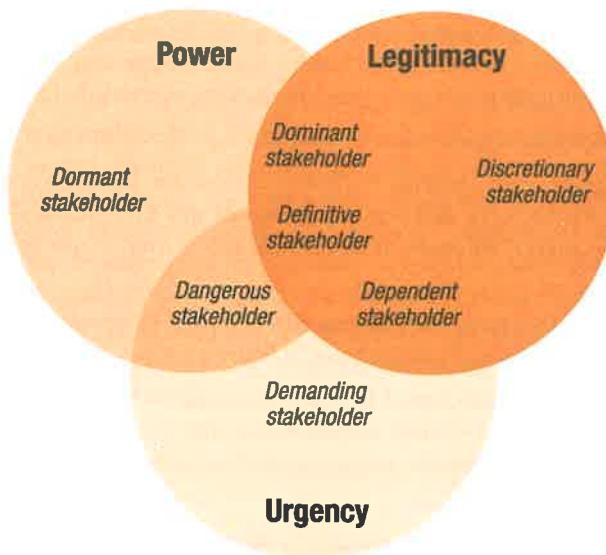

FIGURE 13.4 *Salience model*
- **Salience model⁵** This model is used to group stakeholders based on the appropriateness of their involvement (legitimacy), their authority or ability to influence outcomes (power), and their need for immediate attention (urgency). An example of this model is shown in figure 13.4.